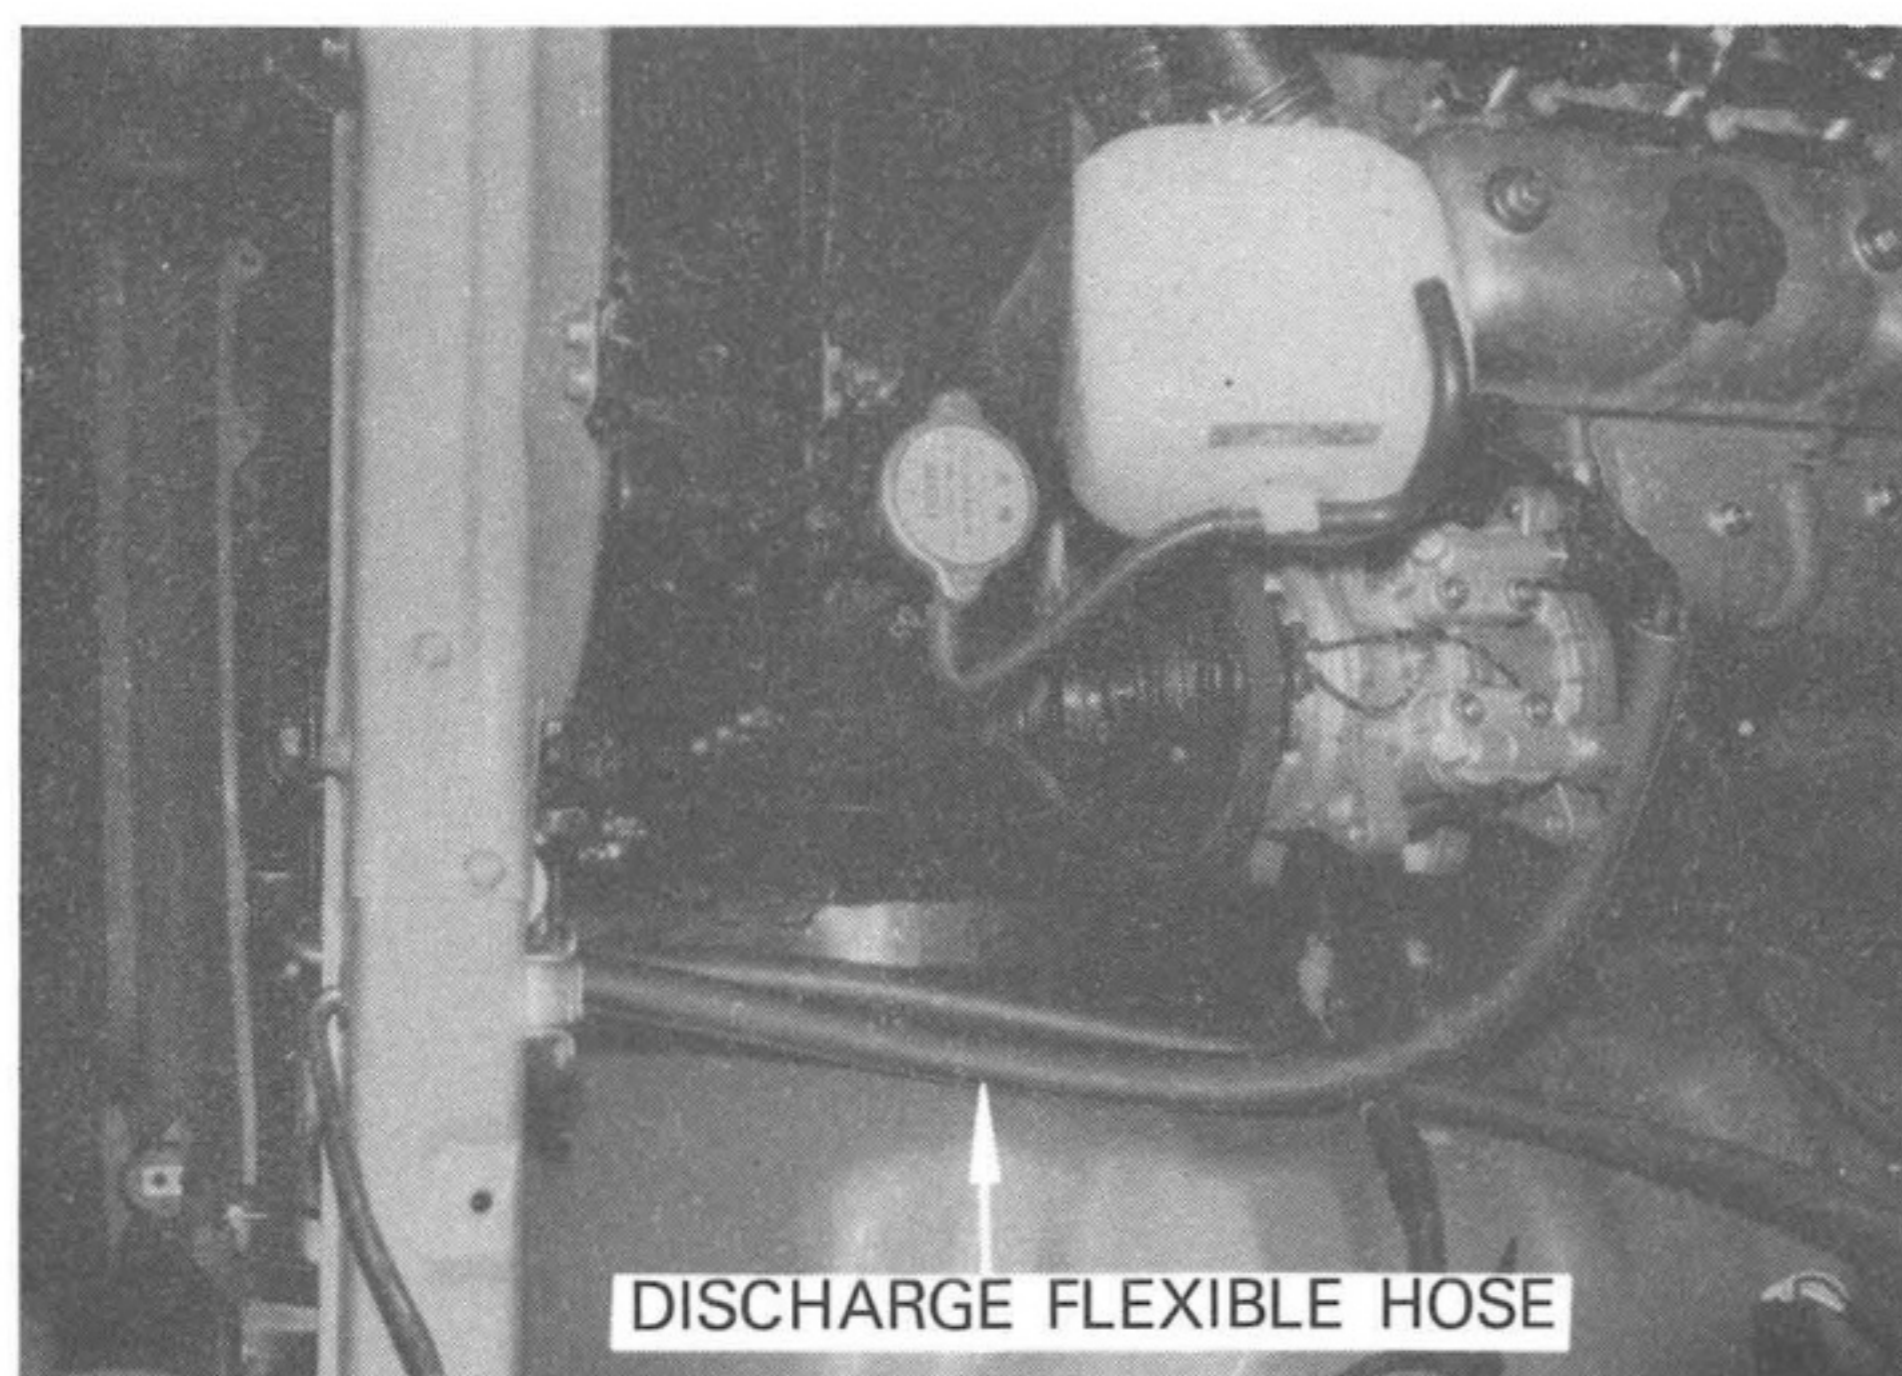

Fig. 3-2
- A) Connect the discharge flexible hose to the condenser inlet fitting and compressor discharge valve marked "D". See Fig. 3-2.